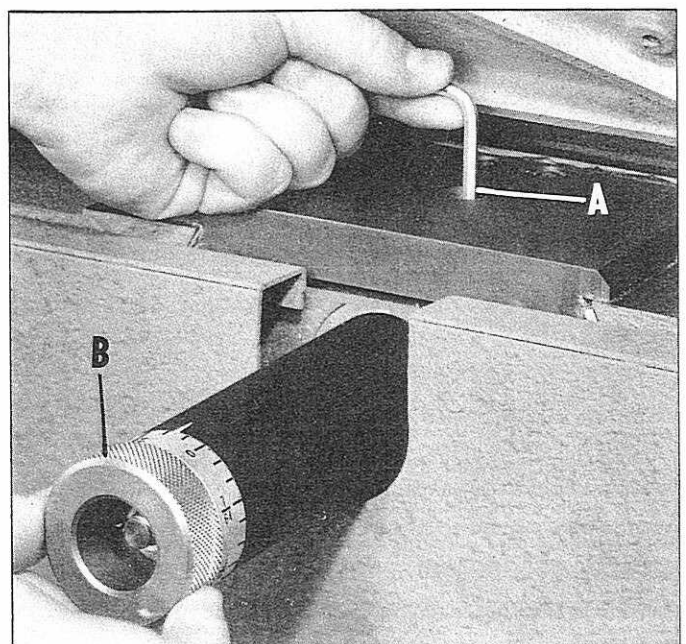

Fig. 11.
2. Place hex wrench (A), in adjusting screw, as shown in Fig. 11.
3. Turn depth of cut control knob (B) Fig. 11, back and forth, while tightening adjusting screw slightly with hex wrench (A), until backlash is minimized.